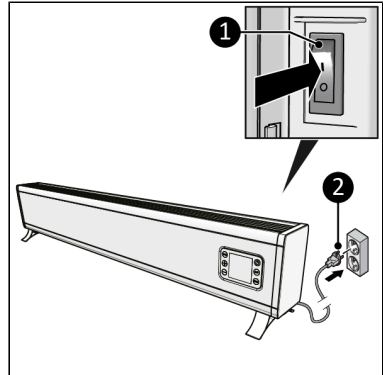

Figure 29.
2. Make sure the ON/OFF switch is in the OFF position (Figure 29, pos. 1).
3. Place the power plug (Figure 29, pos. 2) into an earthed wall socket that is easily accessible. Use an earthed wall socket with a minimum power of 1000-1500-2000-2500 Watt.